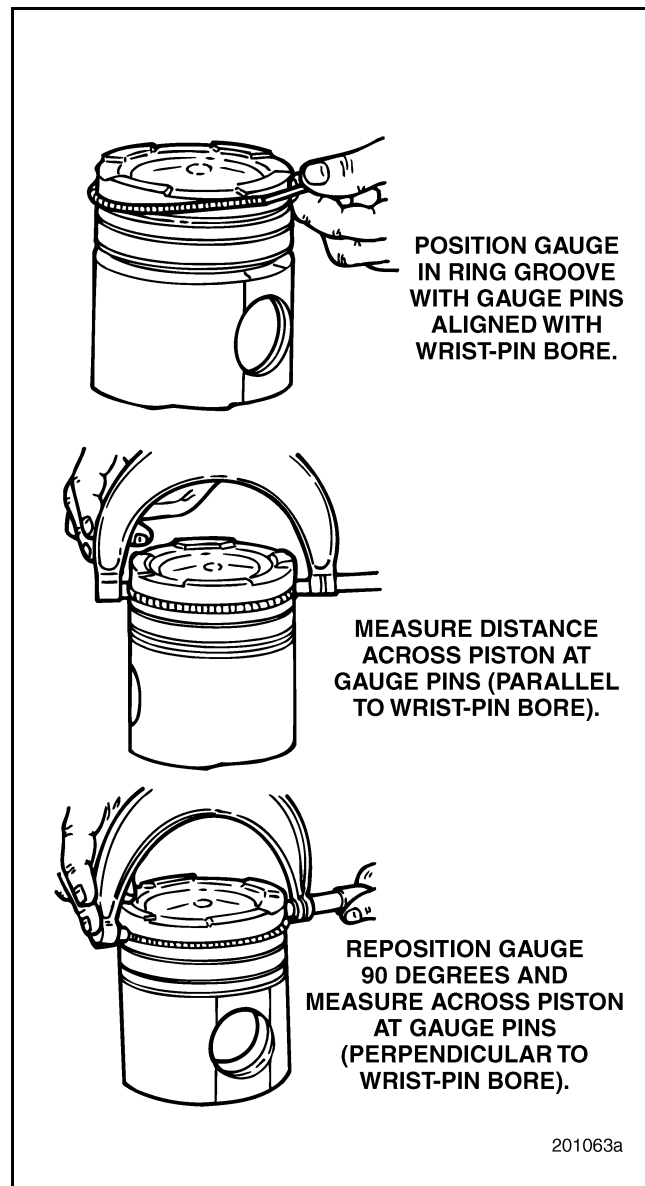

Figure 236 — Ring Groove Wear Measurement
- Using a four- to five-inch micrometer, measure the distance between the outer edges of the two parallel pins. Check each compression ring groove in two locations: parallel and perpendicular to the wrist pin bore (Figure 236). Record both measurements.